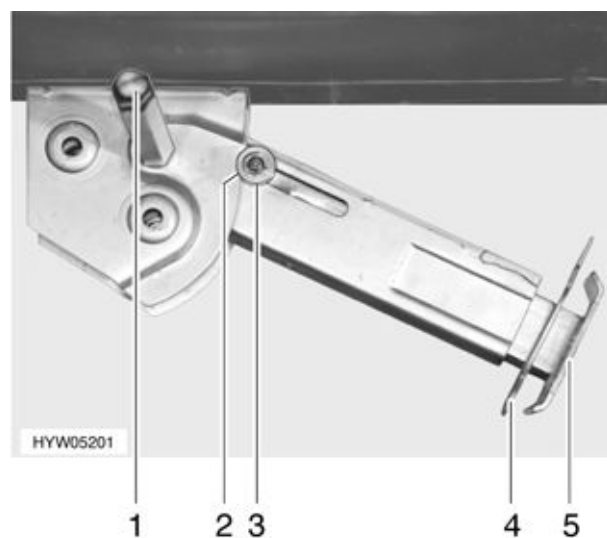

Fig. 20 Steady leg
- Place the socket spanner on the hexagon nut (Fig. 20,1) and rotate until the steady leg is in a perpendicular downward position.
- Remove the splint (Fig. 20,4) out of the support foot extension (Fig. 20,5).
- Place the socket spanner on the hexagon nut (Fig. 20,1) and rotate until the steady leg is clear of the ground.
- Push in the support foot extension (Fig. 20,5) and insert the splint (Fig. 20,4) in the drilled hole in the support foot extension.
- Rotate the hexagonal nut (Fig. 20,1) with the socket spanner until the steady leg has swung upwards and the guide disc (Fig. 20,3) has completely retracted into the notch (Fig. 20,2).
- ▷ Make sure that all steady legs are completely retracted, all support foot extensions are completely pushed in and secured with the splint (Fig. 20,4) and the guide discs (Fig. 20,3) in all steady legs are retracted into the notch (Fig. 20,2).